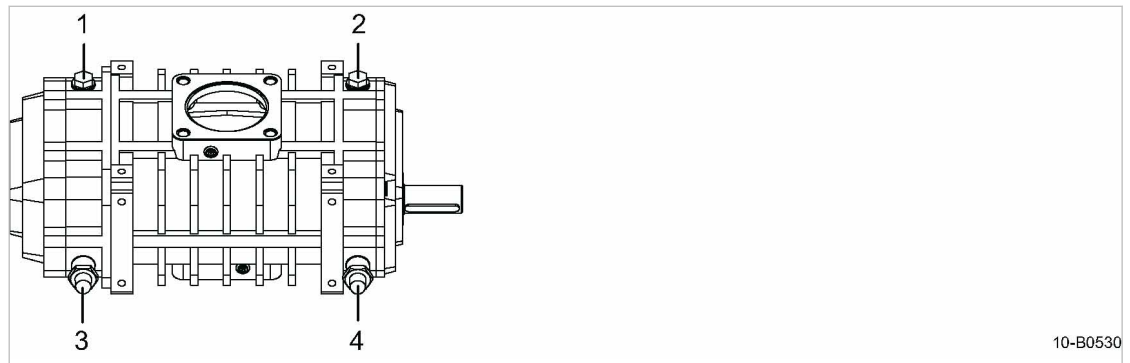

Fig. 31 Replenishing lubricating oil
2. Take out the filler plugs at the oil inlet of the blower block ① and ② (Fig. 31).
3. Take off the caps ① and ② and open the oil drain taps ③ and ④.
3. Close the oil drain taps ③ and ④.
4. Check the oil level in both sight glasses (Fig. 31) and top off as necessary.
5. Screw on the caps ① and ②.